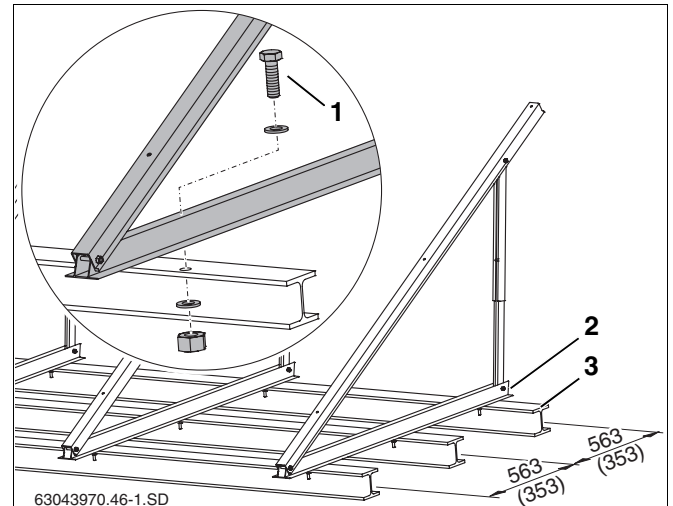

Fig. 26 Flat roof support on girders, dimensions in mm (value in brackets = landscape version)
You can fasten the flat roof supports with anchor bolts. As an example, we describe fastening onto girders (Fig. 26, **Item 3**).
- ▶ Transfer the lower profile hole clearances (Fig. 26, **Item 2**) onto the girders, and drill the corresponding holes.
- ▶ Insert screws (see Tab. 8 and Fig. 26, **Pos. 1**) through the profiles and girders and screw tight with nuts and washers.